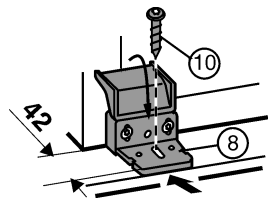

Fig. 21
- ▶ Pre-assemble by passing a long screw Fig. 21 (8) through the centre of the oblong hole in the plastic bracket Fig. 21 (10).
- ▶ Fold down the cover of the plastic bracket Fig. 21 (8).